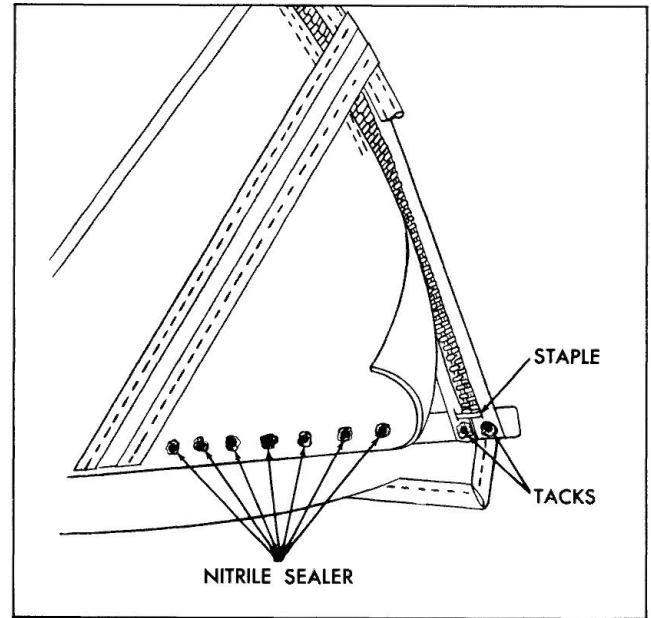

Fig. 22-57 Sealing At Trim Stick
12. Staple both sections of zipper tape together. Staples will aid in preventing zipper scoops from disengaging and also serve as a stop for the slide fastener (Fig. 22-57).
(Fig. 22-57). Zipper tape should not be pulled taut as zipper teeth may show through top material after top has been properly installed.
18. Apply convertible top sealer (nitrile) around each tack head used to secure back curtain material and webbing to rear and rear quarter trim sticks (Fig. 22-57).